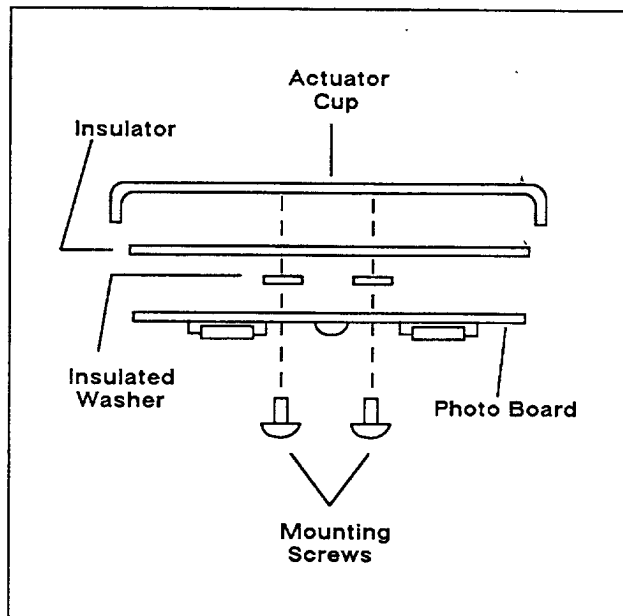

Figure 6. Photo Transistor Board Mounting
14. Attach photo transistor board (B-292902), insulator (257850), washers (243321) and actuator cup to end of rotor shaft with screws retained from step 11. Torque to 10 in. lbs. maximum (1.1 Nm). Photo transistor board and mounting components should be assembled as shown in Figure 6.